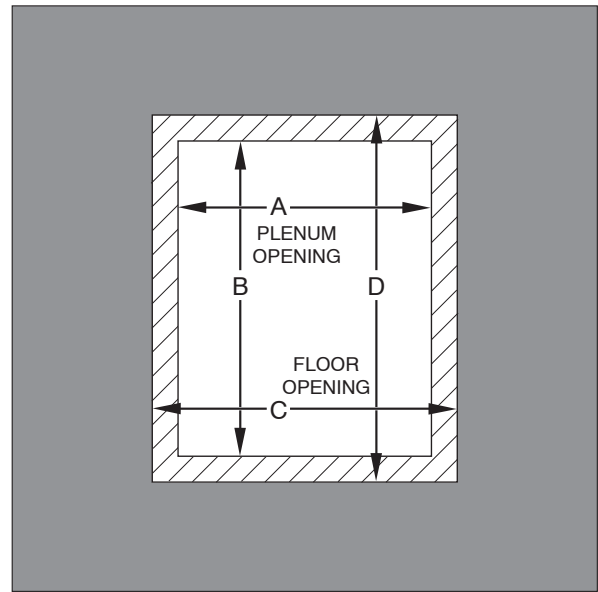

Fig. 11 - Floor and Plenum Opening Dimensions
2. Construct hole in floor per Table 4 and Fig. 11.
3. Construct plenum to dimensions specified in Table 4 and Fig. 11.